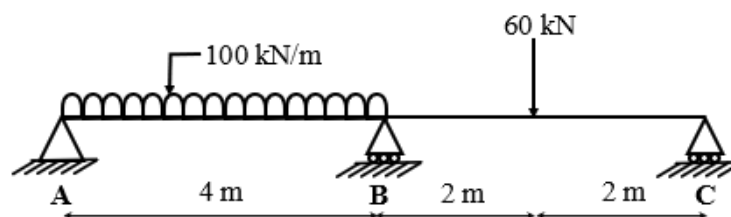

Figure 3
- (c) Analyze the beam shown in the figure 3 using moment distribution method and draw bending moment diagram. **07**